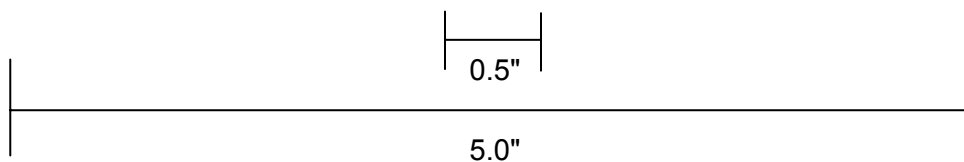

Figure 3.- Fully assembled Sample Bag with DTO insert
4. Install Tool Pedestals (3) using Velcro and snaps (2) on either side. All pedestals should angle in the same direction, with the high end on the left, per figure 3. Start snap with end closest to pedestal
6. Attach Sample Bag corner equipment hooks (2) closest to tile strongbox hinge line to tether points of DTO Insert, per figure 3